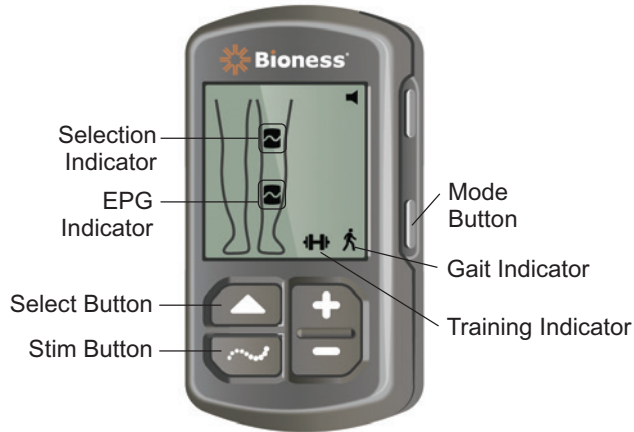

Figure 7-1: Selecting a Operating Mode on the Control Unit
3. The paired EPG(s) will appear in the digital display on the Control Unit with the Selection Indicator icon around the EPG Indicator icon(s). See Figure 7-1. Refer to the "Pairing a New Control Unit to the EPG" section of this guide for pairing instructions.
4. For users with both the lower leg FS Cuff and thigh FS Cuff, the Select button on the Control Unit can be used to toggle between the lower leg EPG and thigh EPG or to select both EPGs. See Figure 7-1.
5. To select Gait mode, press the Mode button on the Control Unit until the Gait Indicator icon appears in the lower right corner of the digital display. See Figure 7-1.
6. To select Training mode, press the Mode button on the Control Unit until the Training Indicator icon appears in the lower right corner of the digital display. See Figure 7-1.
1. The stimulation intensity will need to be adjusted separately for each connected EPG. Press the Select button on the Control Unit to select either the lower leg EPG or thigh EPG. See Figure 7-1.
3. Press the Stim button on the Control Unit to stop stimulation. See Figure 7-1.